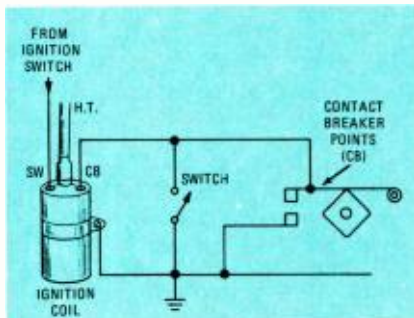
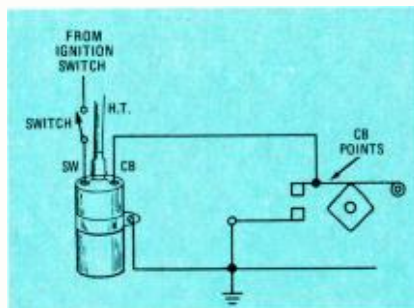
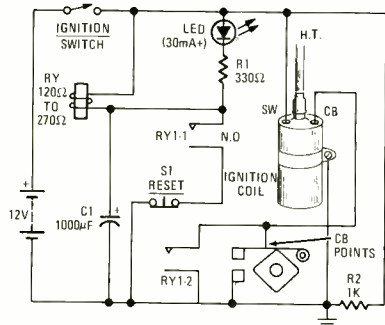

FIG. 1—IMMOBILIZER operates by shorting contact breaker points.
FIG. 2—IGNITION IMMOBILIZER operates by disabling vehicle's ignition circuit.
FIG. 5—SELF-ACTIVATING IMMOBILIZER circuit for vehicles with -V ground systems. For vehicles with +V grounded, reverse the polarities of C1 and the LED.
Simple immobilizers consist of a concealed switch wired into some part of the electrical section of the vehicle's power unit. Figures 1 and 2 show how immobilizers can be wired into the vehicle's ignition system. In Fig. 1, the switch is wired between the chassis and the vehicle's contact breaker (CB) points.
The circuit shown in Fig. 2 has the immobilizer switch wired in series with the vehicle's ignition switch, so that the engine can operate only when the switch is closed. The protection of this circuit is inferior to that of Fig. 1 since the thief can bypass the immobilizer and the ignition switch by simply hooking a wire from the battery to the sw terminal of the coil.
operates only when the switch is closed. This system gives better protection than Fig. 2, but is not as good as Fig. 1 since the starter solenoid can be operated manually on many vehicles and also because the starter and immobilizer switches can be bypassed by a single length of wire.
A major weakness of the circuits shown in Figs. 1 to 4 is that they must all be turned on and off manually so they give protection only if the owner remembers to turn them on each time he leaves his car. Figure 5 shows an immobilizer circuit that turns on auto-
The relay used in the Fig. 5 circuit